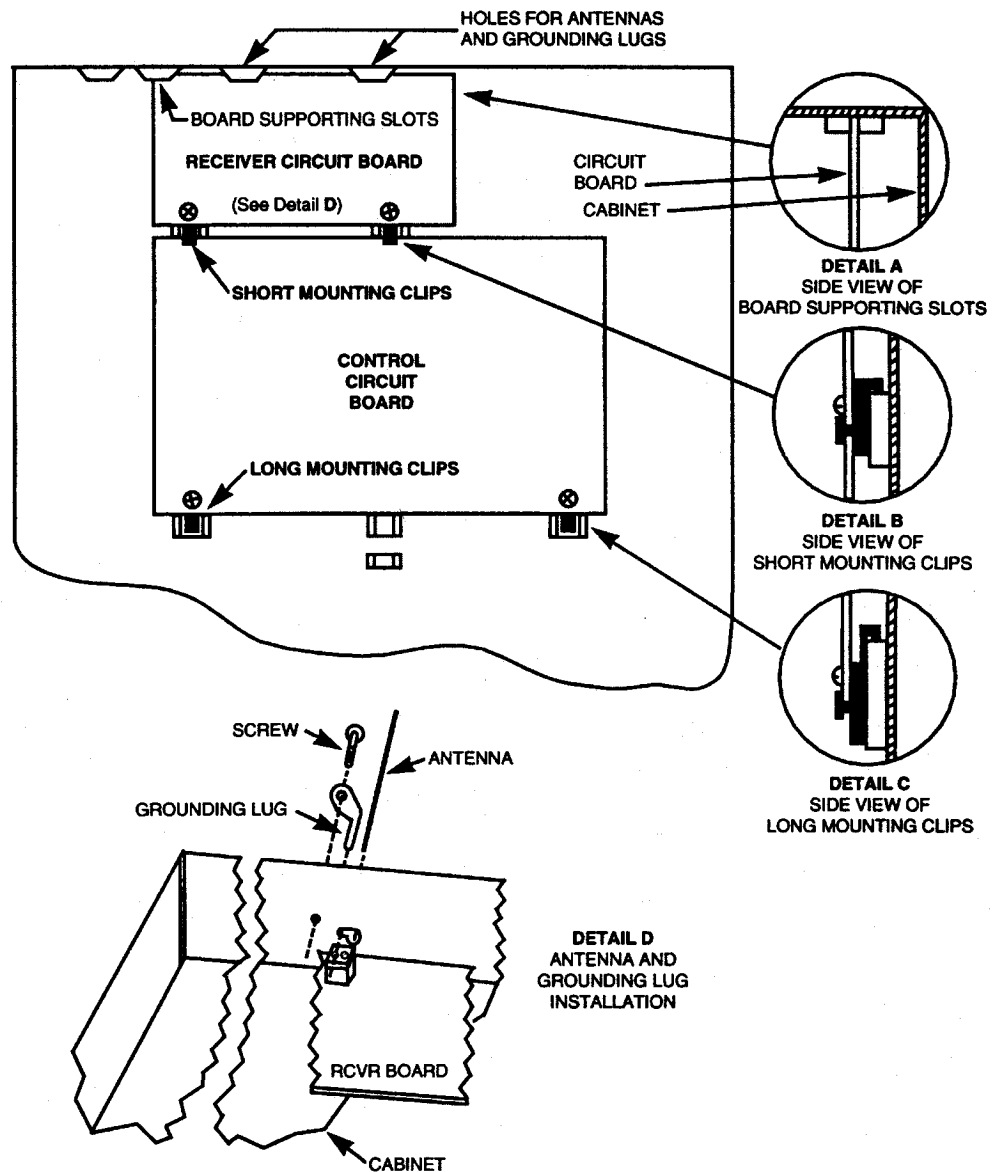

Figure 3. Installing The PC Board And RF Receiver (if used) Together In The Cabinet
1. Hang two *short* (black) mounting clips (provided with receiver) on the raised cabinet tabs, as shown in Detail B in Figure 3.
2. Insert the top of the receiver board (removed from its own case as described in its instructions) into the slots at the top of the cabinet, as shown in Detail A in Figure 3. Make sure that the board rests on the correct row of tabs, as shown.
3. Swing the base of the board into the mounting clips and secure it to the cabinet with the accompanying screws (see Detail B in Fig. 3).
8. Setup and wiring of the receiver is contained in the WIRELESS (RF) ZONE EXPANSION (5800 RF SYSTEMS) section.